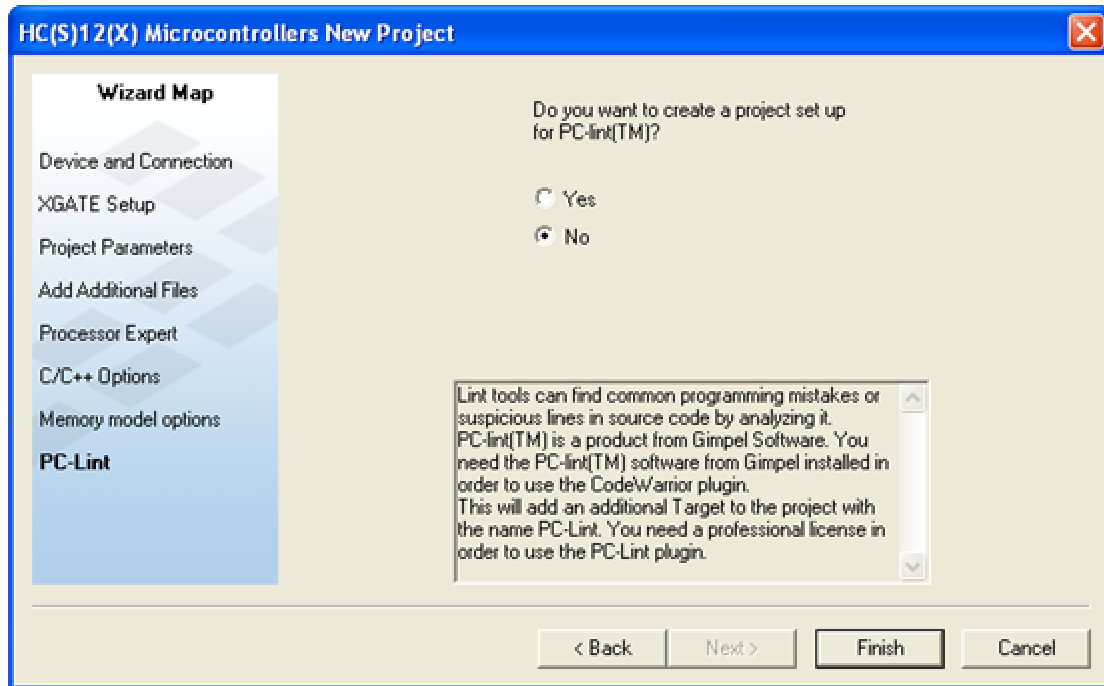

Figure 3-9 PC-lint Options Screen
14. Click “Next” to continue. The PC-lint options screen appears. As shown as Figure 3-9.